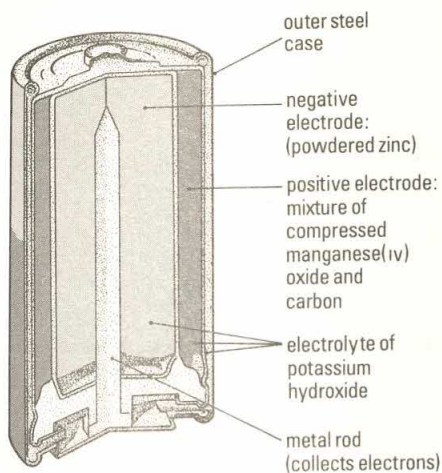

Figure 14.7
- 5 Why is the cell shown in figure 14.7 called an "alkaline" cell?